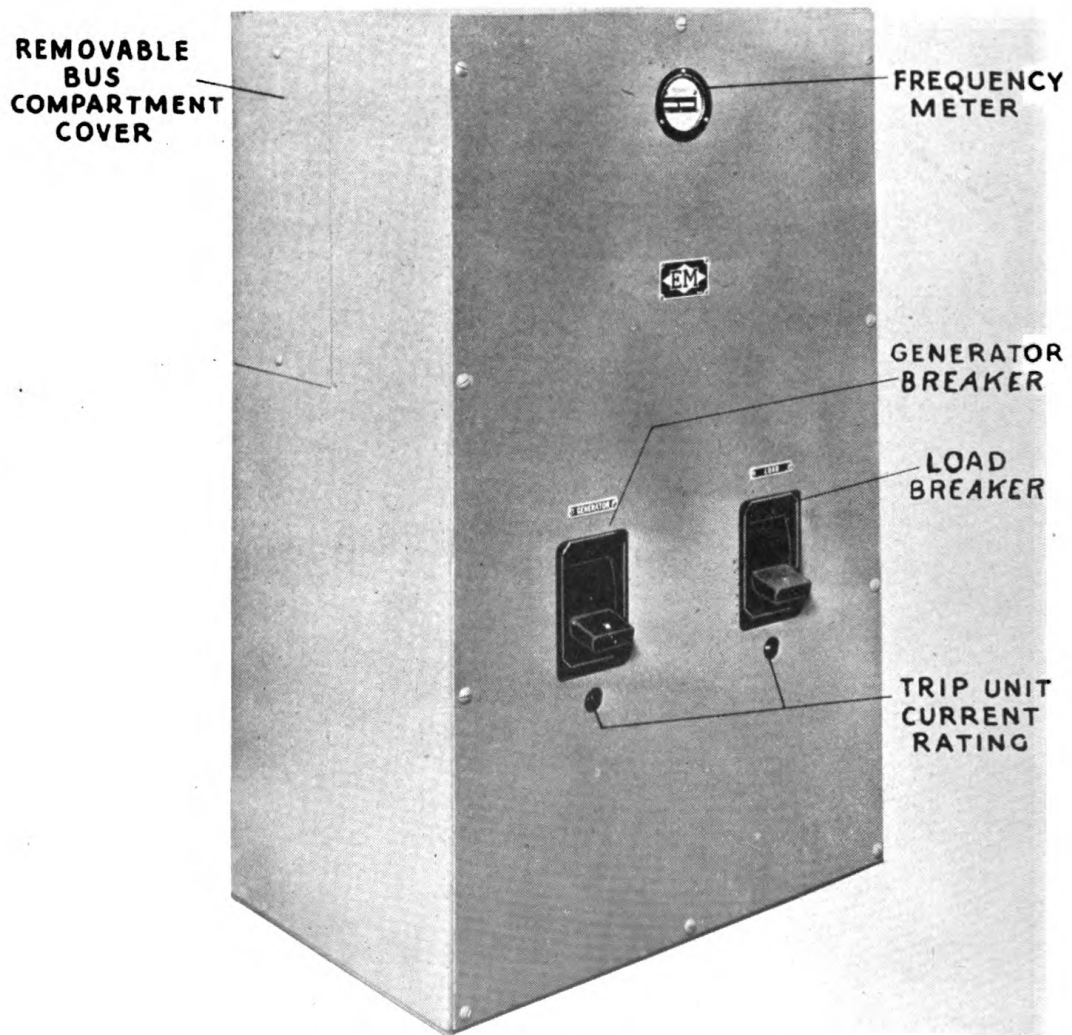

FIG. 5—Switch Cabinet—Non Synchronizing
- Figure 5 Switch cabinet—non synchronizing.